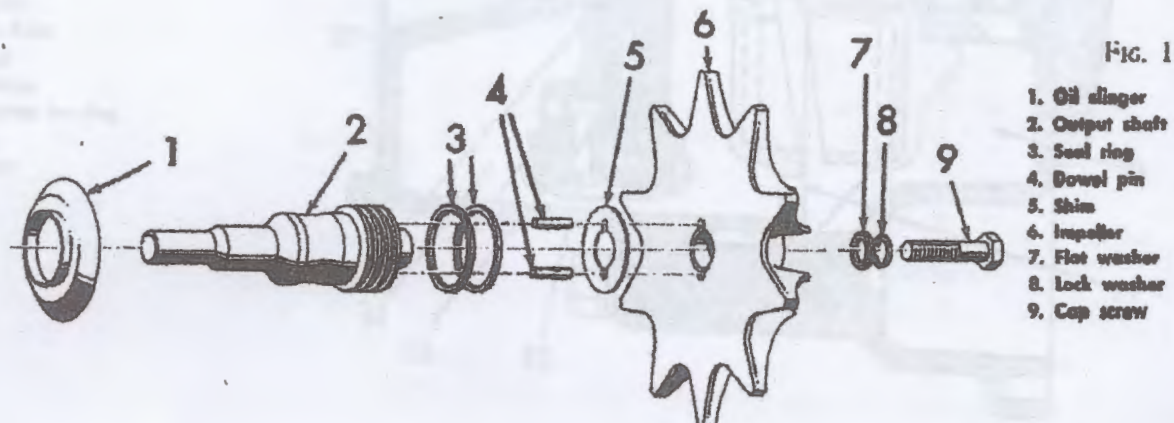

FIG. 113
A slinger ring (1, Fig. 113) and two oil seal rings (3) are used at the front of the output shaft to prevent oil from leaking out around the impeller and into the scroll housing.